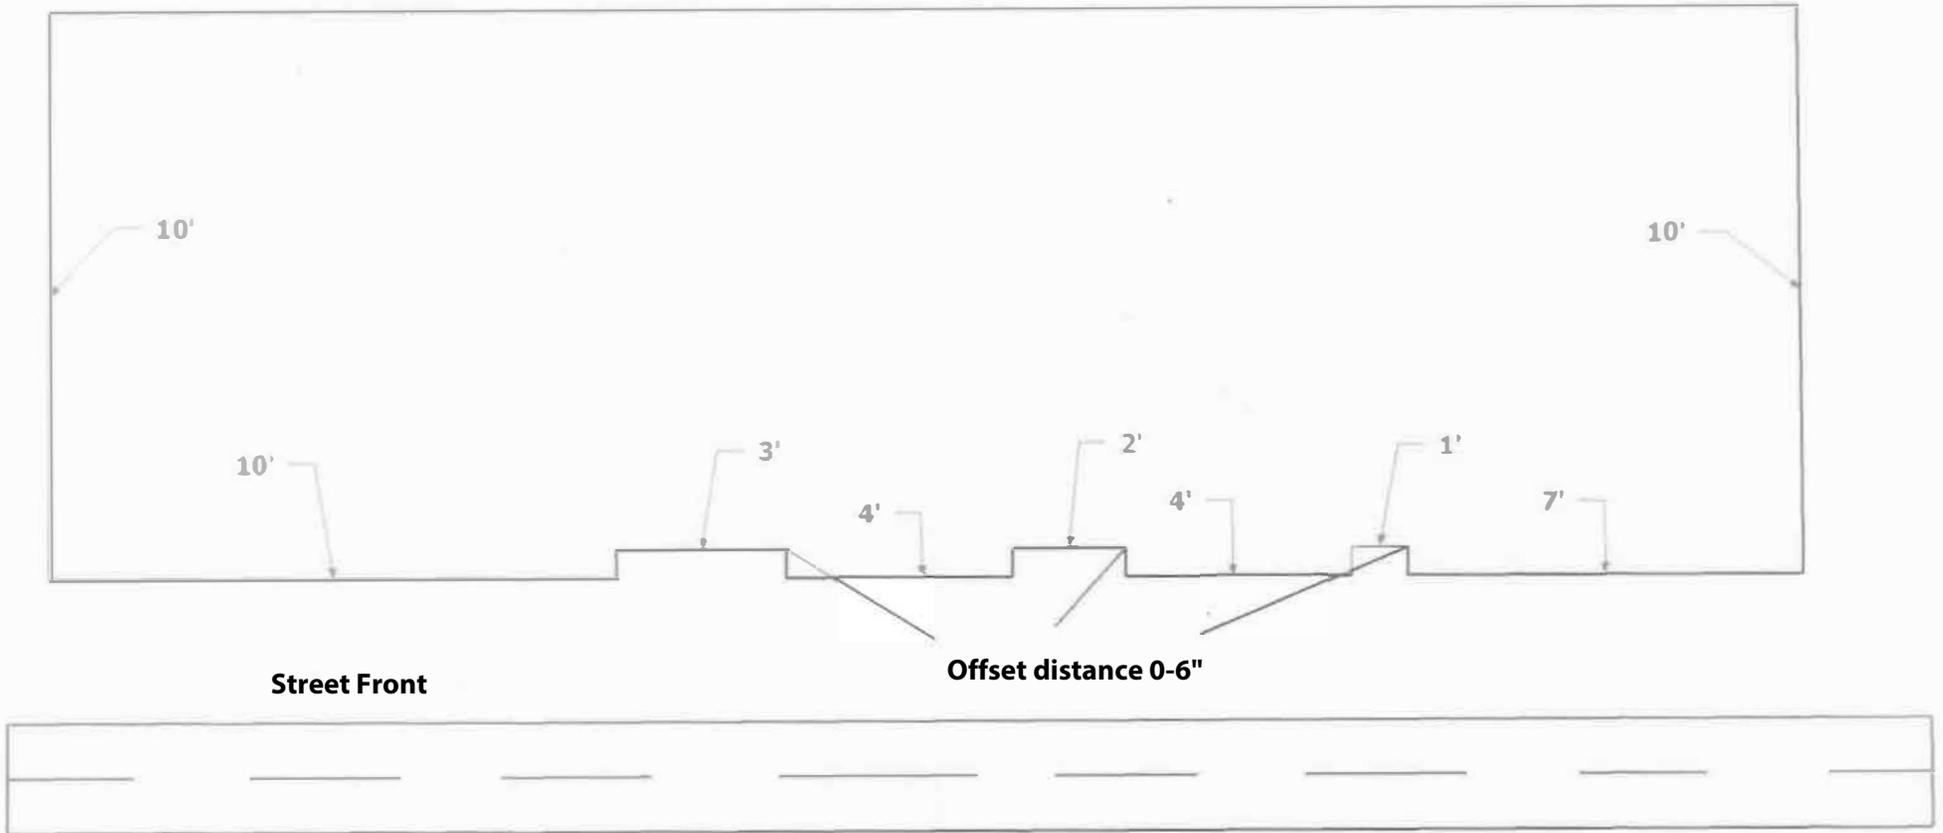

Figure 4
1. **P** = Total surface area of all flat, vertical and/or projected, non-sloping, sides of the building visible from the street (i.e. the flat vertical exterior walls of the building) (see Figure 4) P=___ sf.
2. **R** = Total surface area of all sloping surfaces of the building that is visible from the street (i.e. roof of building) (see Figure 4) R= ___ sf.